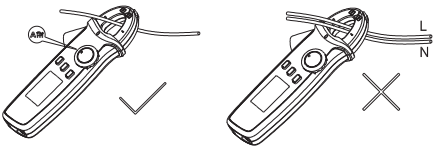
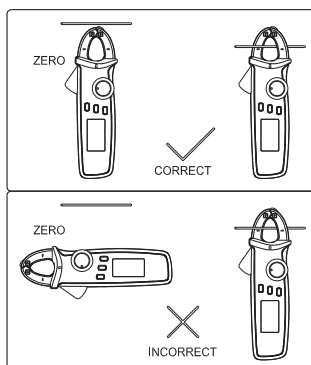

Figure 5
Figure 6
3. AC/DC current measurement (Figure5, Figure6)